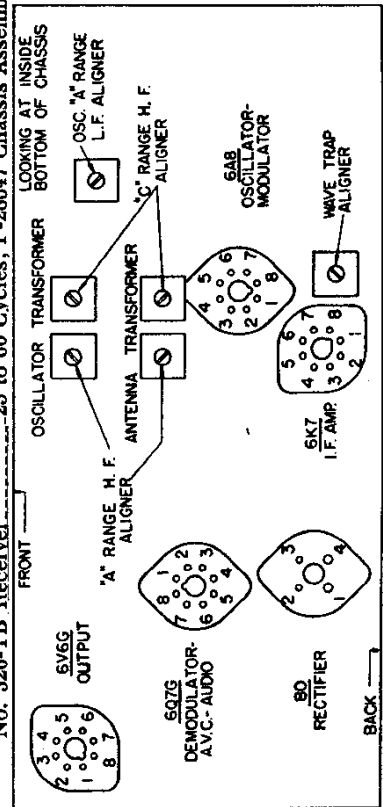

Fig. 1. Terminal Layout
In making any alignment adjustments, always adjust the test oscillator's output voltage to the minimum value where a good alignment may still be obtained. Never attempt to make any alignment adjustments using a strong signal. Before proceeding with the alignment of any circuits in these receivers be sure that the "Off-On-Tone" control knob is in the "Off" position. Then, with the gang tuning capacitor in this position, the dial pointer should center the "Broadcast" position, slightly clockwise to position, where set turns "007". Figure 1, shows the location of all the aligning capacitors in these receivers.
Before aligning the circuits of any of these receivers, the tuning dial must be precisely aligned to track with the "Broadcast Selector" knob in a clockwise direction so that the gang tuning capacitor is set in its maximum capacity position. Then, with the gang tuning capacitor in this position, the dial pointer should center the "Broadcast" position, slightly clockwise to position, where set turns "007". Figure 1, shows the location of all the aligning capacitors in these receivers.
2. Set the dial pointer to the extreme low frequency position on the receiver's dial. Rotate the "Off-On-Tone" control knob to the "Off" position. Then, with the gang tuning capacitor in this position, the dial pointer should center the "Broadcast" position, slightly clockwise to position, where set turns "007". Figure 1, shows the location of all the aligning capacitors in these receivers.
4. Now, noting from Figure 1, the aligning capacitors for the first and second I. F. Transformers, align the I. F. circuits in the following manner: